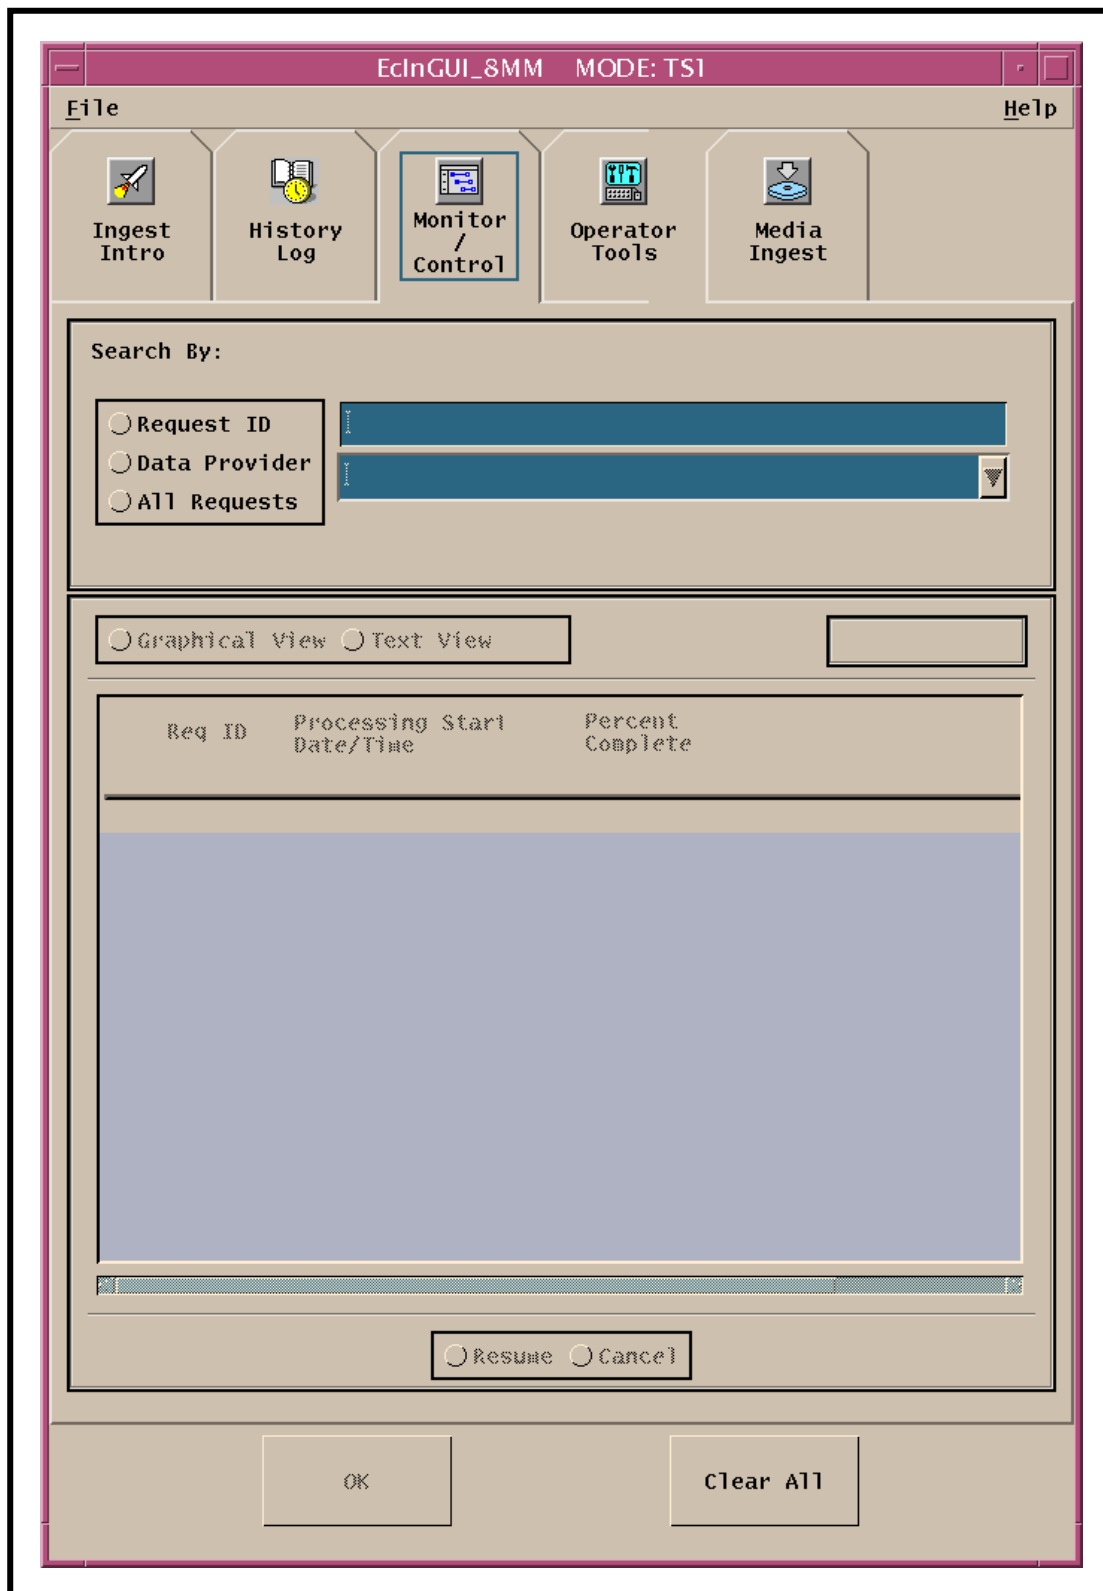

Figure 12. ECS Ingest GUI Monitor/Control Screen
- The **Monitor/Control** screen (Figure 12) is displayed.